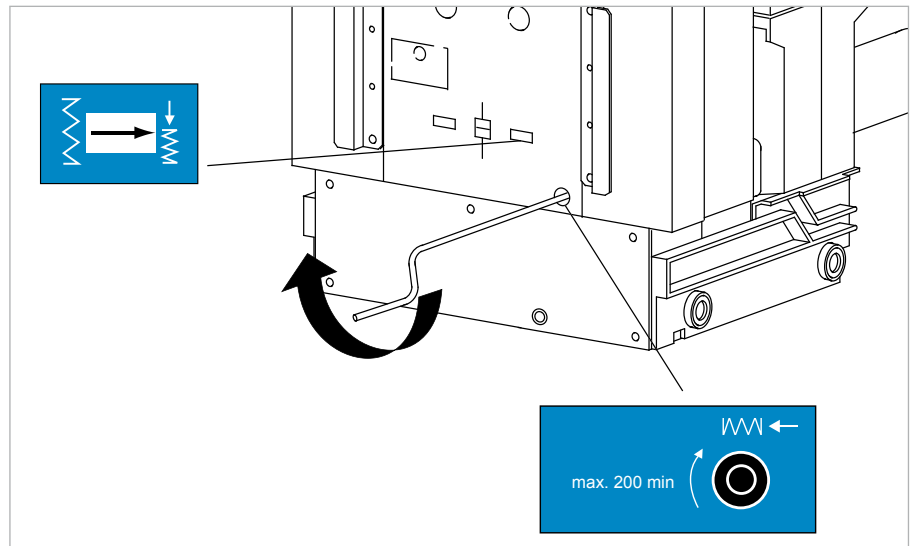

Fig. 42
1. Insert crank into opening for tensioning the energy storing device (Fig. 42).
3. Remove crank. The circuit-breaker is ready for closing (Chapter 6.7 on page 37, Table item 2).